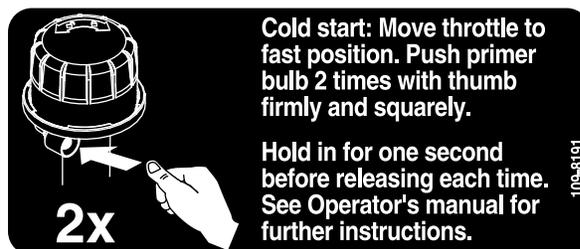

Figure 11
4. **For Kawasaki Units:** Press the primer bulb two times (see Figure 11).